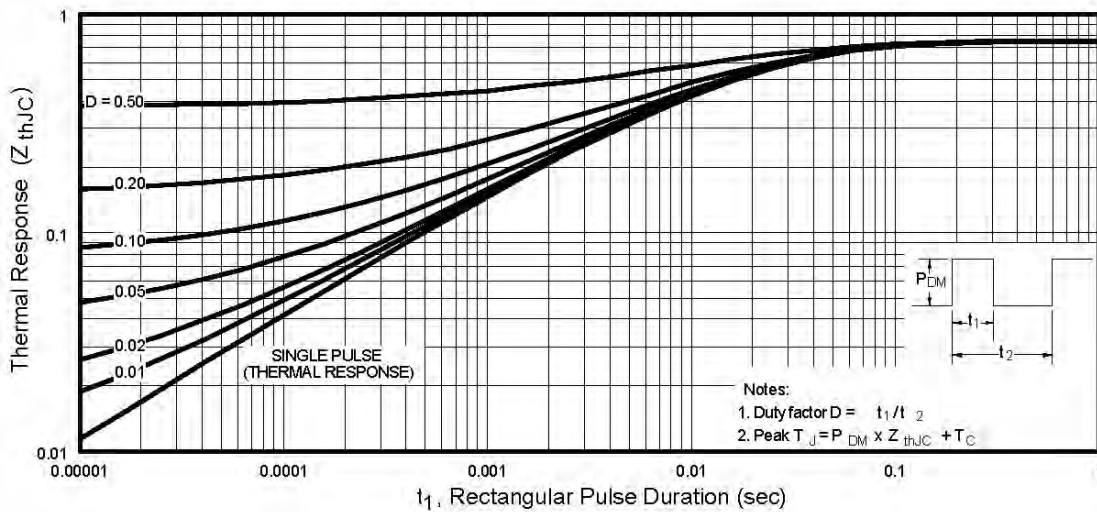

Fig 11. Maximum Effective Transient Thermal Impedance, Junction-to-Case
- ① Repetitive rating; pulse width limited by max. junction temperature. (See fig. 11)
- ② $V_{DD} = 25V$, starting $T_J = 25^\circ\text{C}$. $L = 190\mu H$